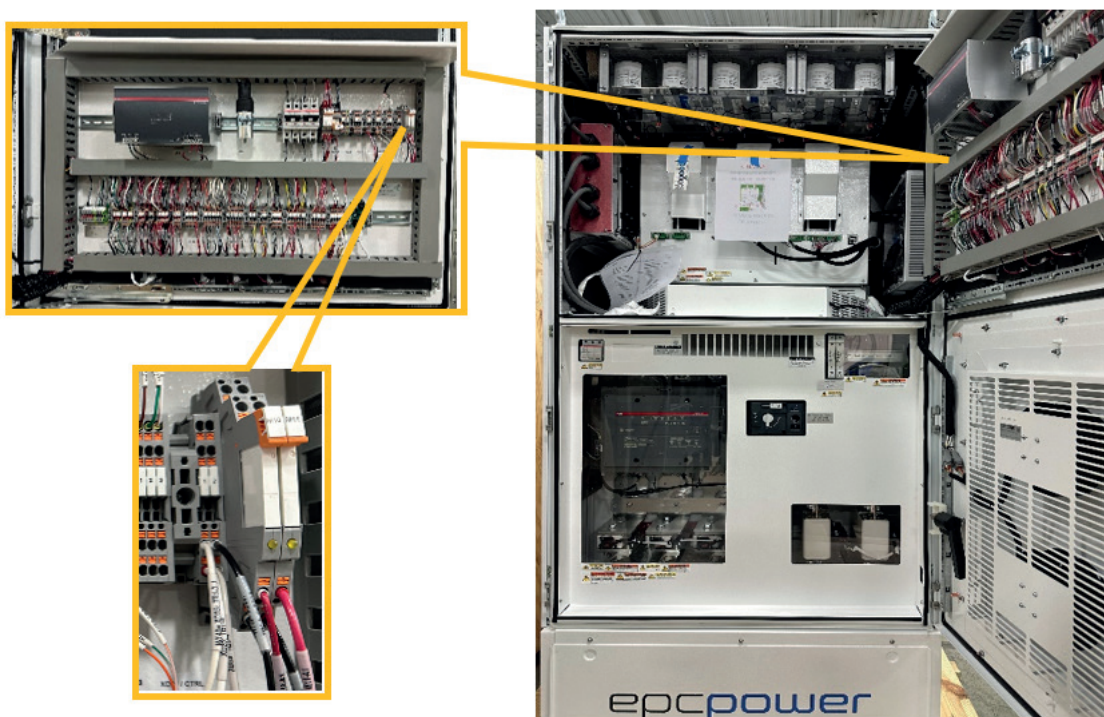
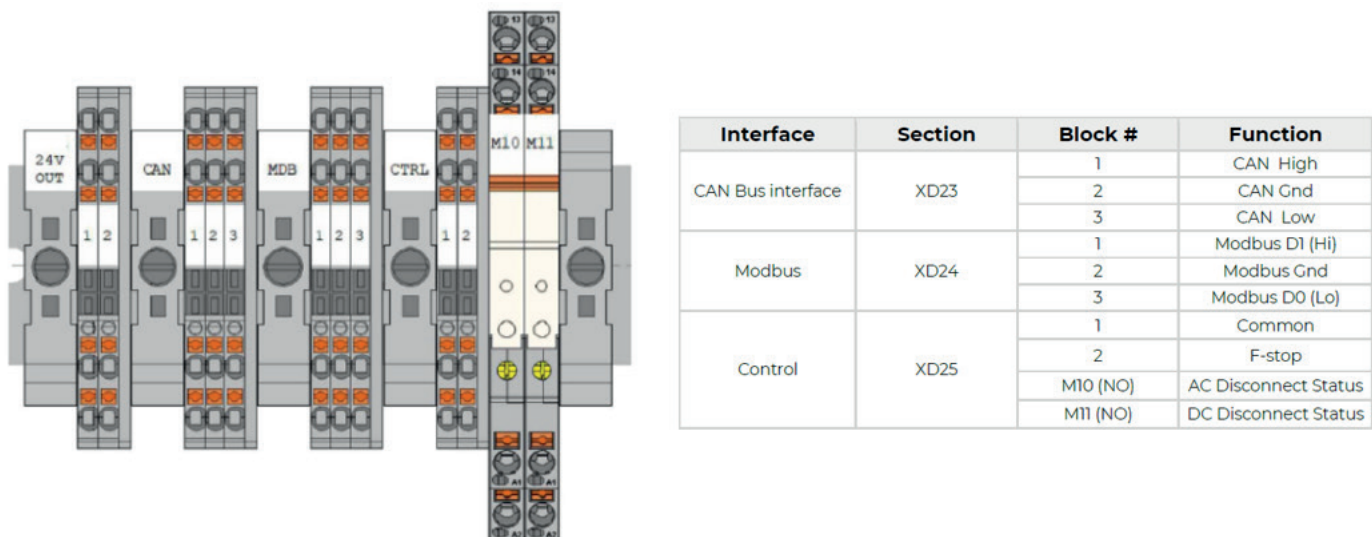

Figure 132. C-Cab XXL Auxiliary Power Terminal Location – XD23 & XD25
Figure 133. C-Cab XXL XD23 + XD25 Terminals
2. Start by identifying the Auxiliary Power Cable Harnesses. The cable will be marked as “HES-XXL1M1/C-Cab XXL1-CNL” Figure 133.
- d. As aid for the location reference use Figure 132 and Figure 133 as a guide.
4. The other end of “HES-XXL1M1/C-Cab XXL1-CAN” Figure 133 cable harness needs to be routed through the bottom of the M-Cab XXL.